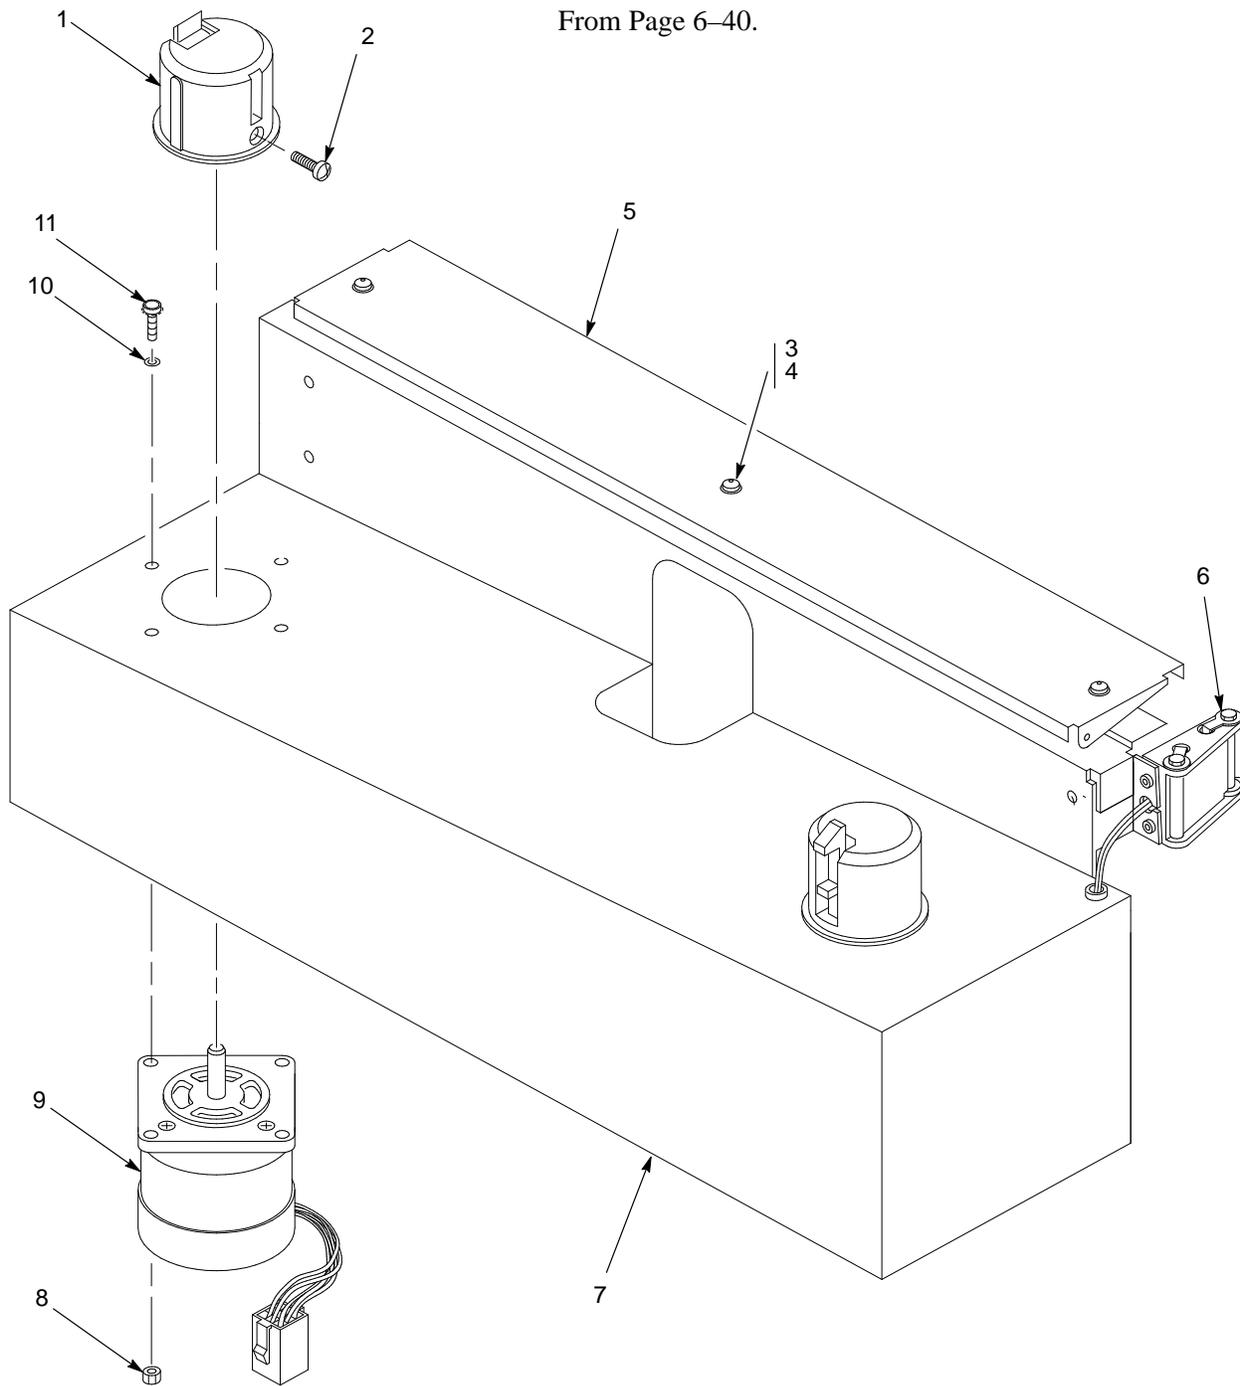

Figure 6-8. Ribbon Deck
3. As shown in Figure 6-8 (page 6-42, item #2), loosen the ribbon hub set screw and remove the hub.